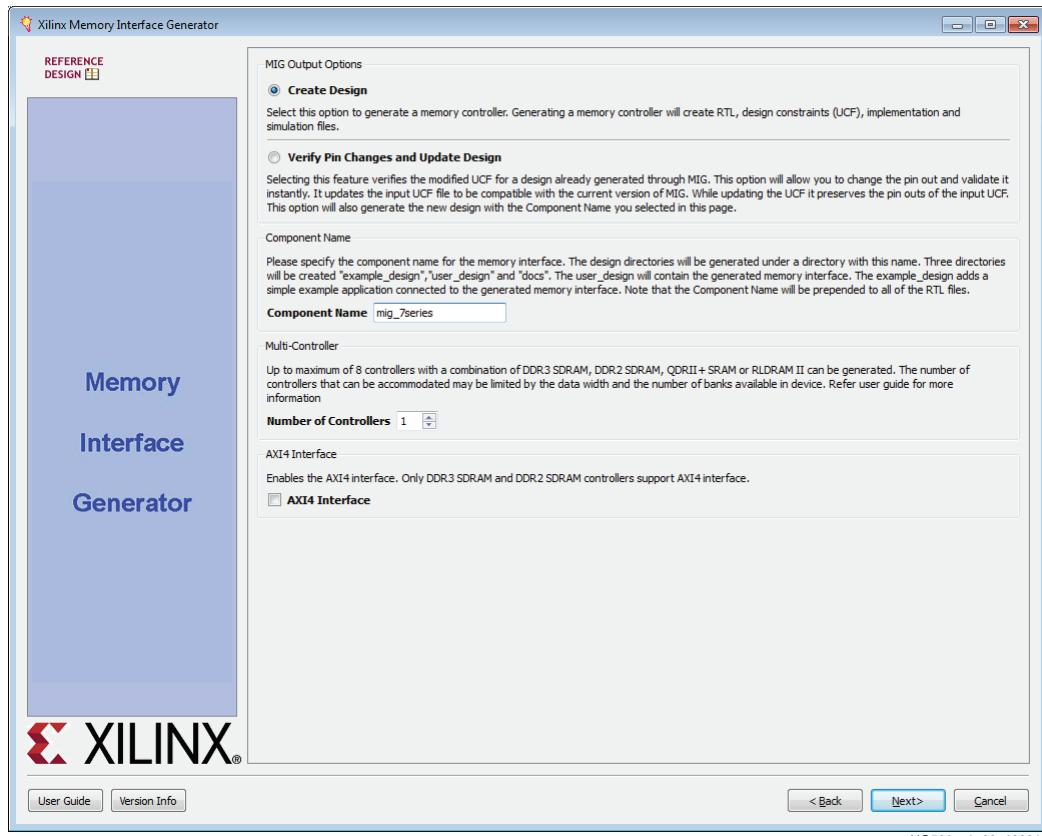

*Figure 2-7: 7 Series FPGAs Memory Interface Generator Front Page*
7. The options screen in the CORE Generator tool displays the details of the selected CORE Generator tool options that are selected before invoking the MIG tool (Figure 2-7).